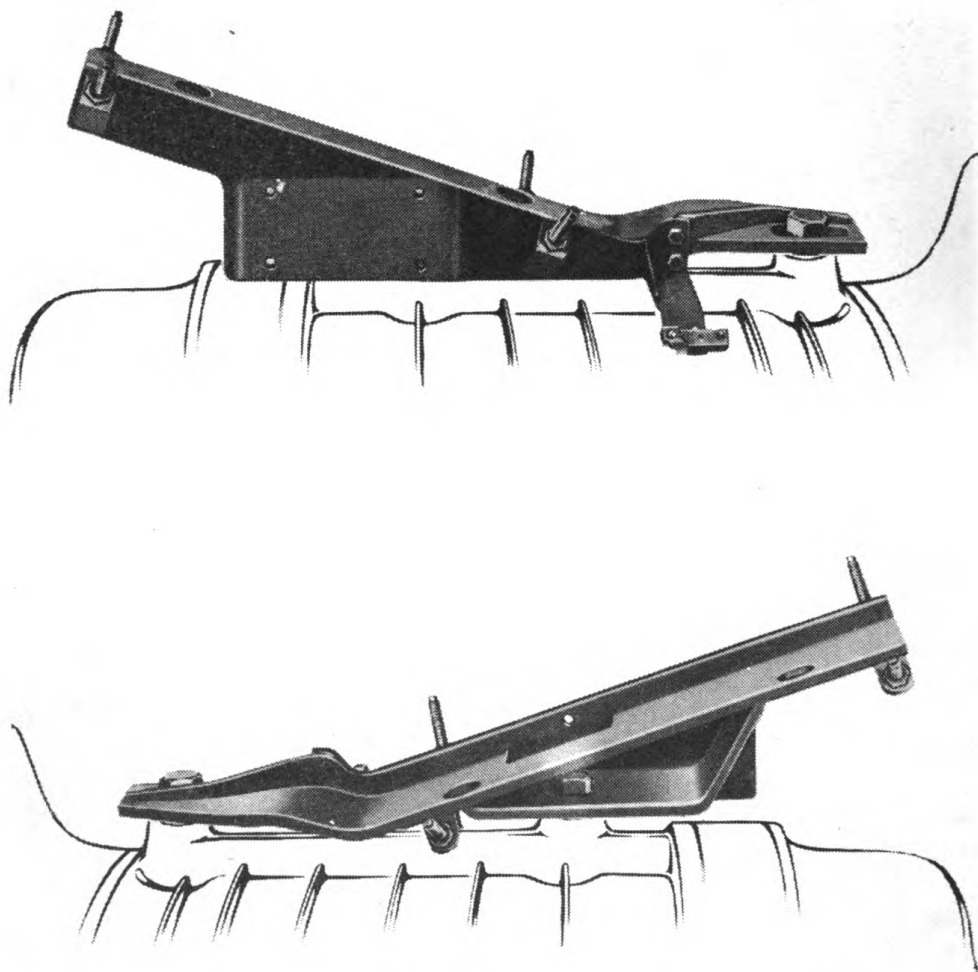

Fig. 32. Baseplate viewed from assistant driver's seat (above) and driver's seat (below).
(3) Place bolts through slotted holes in baseplate (fig. 32). Make bolts handtight only. (Do not tighten with wrenches at this time.)
b. Fuel container. (1) Pass fuel container through turret hatch by means of rope attached to handle of fuel container.